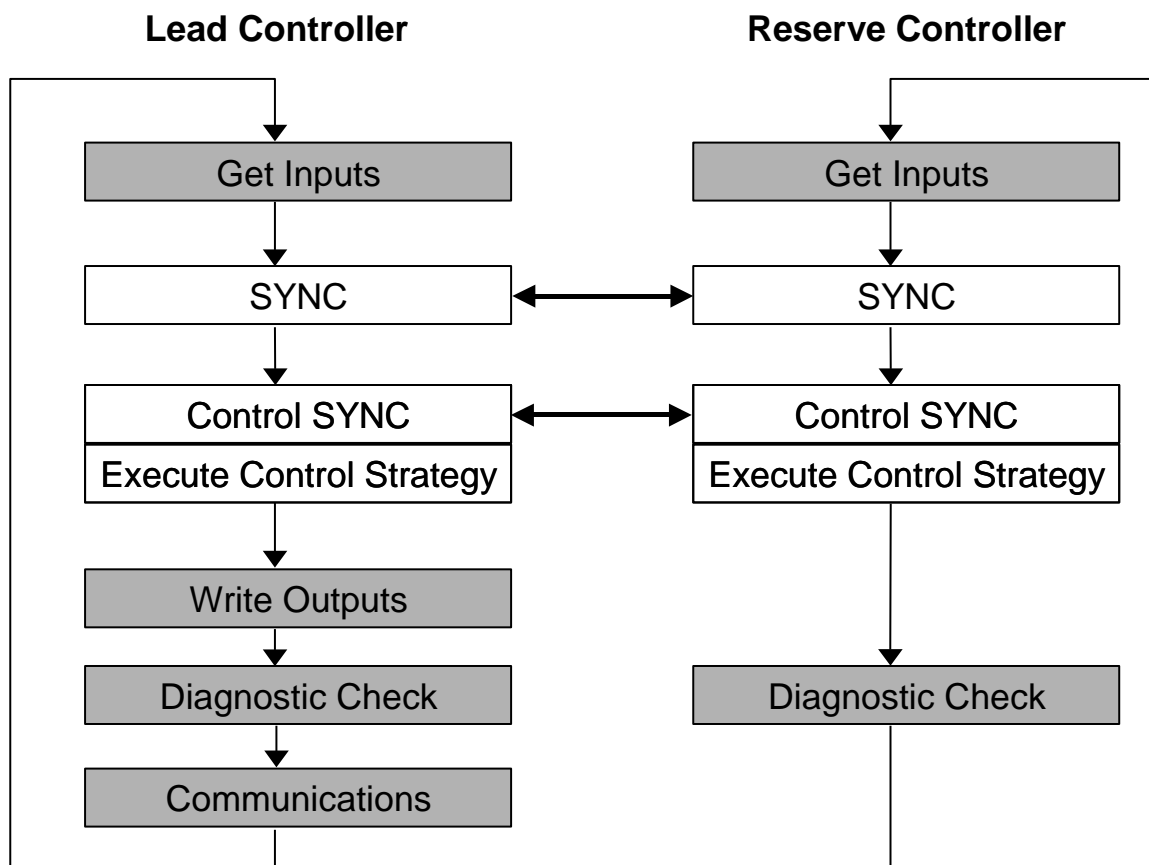

Figure 11 Lead/Controller synchronization
- Both the Lead and Reserve Controllers execute the function blocks in the control strategy, but only the Lead Controller writes the physical outputs to the I/O Racks. See Figure 11.